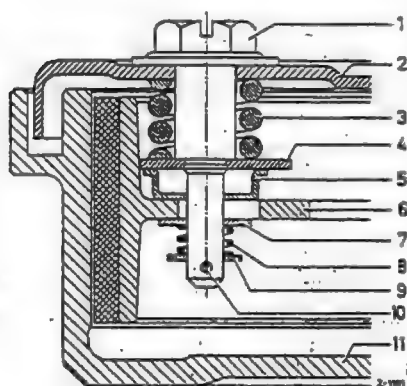

Fig. 42-9/1
3. Pull out the cotter pin (10) from the adjustment bolt (1). Then remove the washer (9) together with the pressure spring (8) and the washer (7) (Fig. 42-9/1).